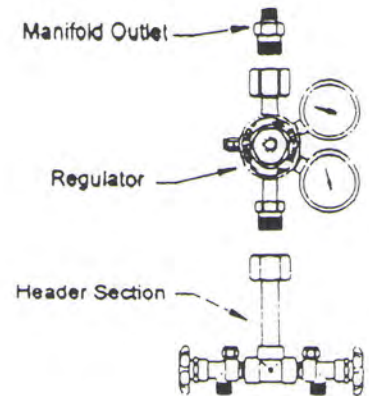

FIGURE 2
1. Assemble the manifold outlet fitting to the regulator outlet (Figure 2).
2. Assemble the header assembly to the regulator inlet oriented as shown in Figure 2.
1. Determine and mark the vertical center line for installation of the manifold (Figure 2).